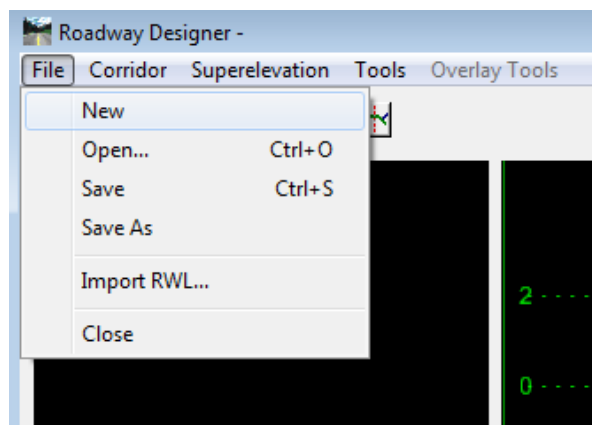

Figure 1-8 InRoads Roadway Designer Creating a New File
- K. Create and Save the .ird (Roadway Designer) file. Click to **Modeler > Roadway Designer...** on the InRoads Menu Bar. In the roadway designer choose **File > New** as shown in Figure 1-8 and input project name (xx_xxx), for this lab use **Roadway_Designer** in the File Name field. Click **Save**, **Cancel** and **Close** the Roadway Designer.